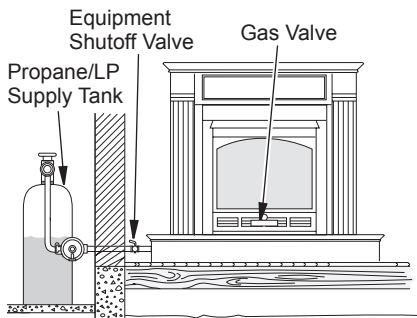

Figure 17 - Checking Gas Joints (Propane/LP Only)
3. Check all joints from gas meter to equipment shutoff valve for natural gas or propane/LP supply to equipment shutoff valve for propane/LP (see Figures 17 or 18). Apply noncorrosive leak detection fluid to all joints. Bubbles forming show a leak.
4. Check all joints from equipment shutoff valve to gas regulator (Manual-Controlled Models) or to gas control valve (Remote-Ready Models) (see Figures 17 or 18, page 15). Apply noncorrosive leak detection fluid to all joints. Bubbles forming show a leak.